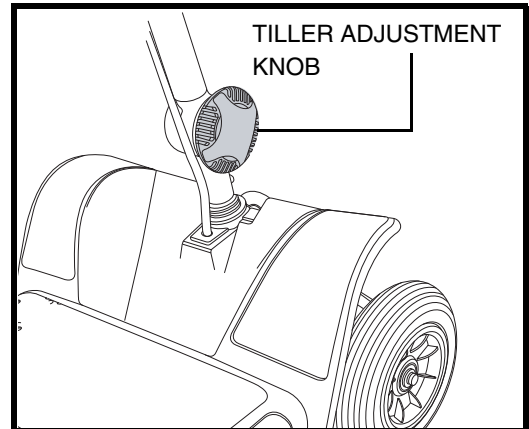

Figure 15. Tiller Adjustment Knob
1. While supporting the tiller, turn the tiller adjustment knob counterclockwise to loosen the tiller. **See figure 15.**